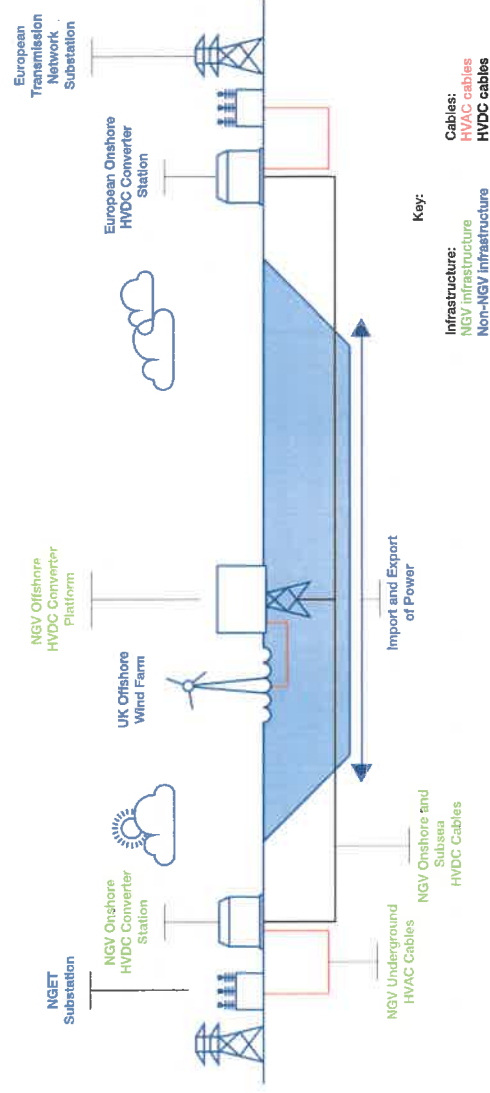

Figure 2: Indicative components of a MPI
**The onshore infrastructure for a MPI is no different to that of a point-to-point interconnector. As shown in Figure 2, Nautilus would connect offshore wind farm/s to an offshore converter station, potentially linking clusters of wind farms into a single connection point, before transporting this electricity to the onshore transmission systems of two connected countries through a subsea electricity cable.**